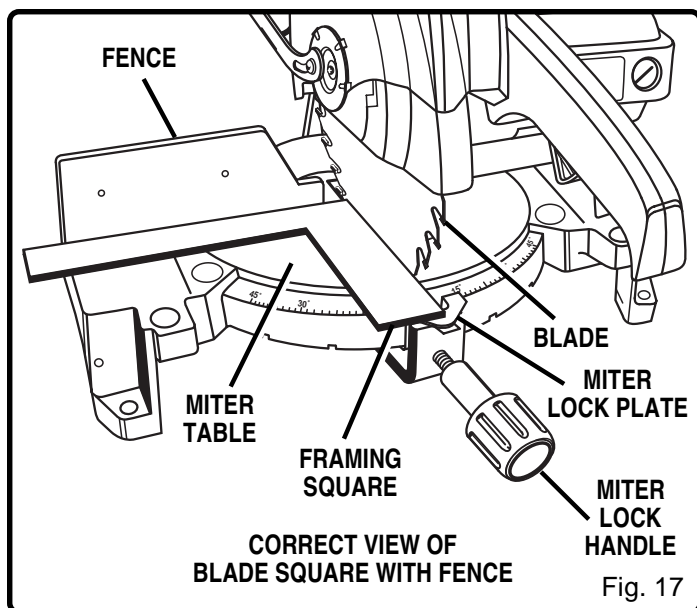

Fig. 17
See Figures 17 - 20.
- The edge of the square and the saw blade should be parallel as shown in figure 17.